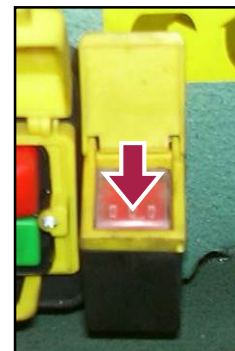

Figure 13 – Reversing the rotation direction.
To reverse the rotation direction of the electric motor, lift the cover and press the red button to the right of the emergency button (see Figure 13). If pressed first time downwards, the spindle will rotate in a clockwise direction, while if pressed again, the spindle will rotate anticlockwise.
10. If necessary, set the rotation direction of the electric motor desired, using the rotation direction button (in red, see Figure 13).